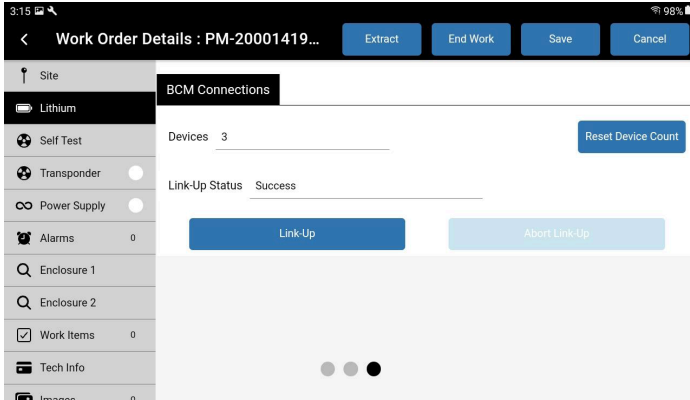
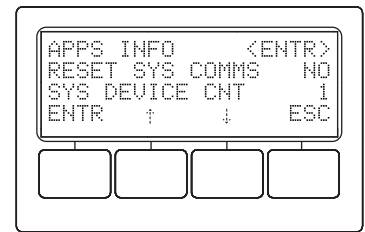

Fig. 5-16, Spotlight360™ App - BCM Connections
Fig. 5-17, Smart Display - System Device Count
3. On the Lithium page in the Spotlight360™ application on the tablet (Fig. 5-16), swipe to the "BCM Connections" display, and check whether the displayed "Devices" count matches the number of BCMs. If not, check the communications cables, then use the "Device Count" button to update the count. Alternatively, on the XM3.1-HP™ power supply Smart Display (Fig. 5-17), in the **BATT** menu, confirm that the **SYS DEVICE CNT** matches the number of BCMs. (If not, check the communications cables, then use the **RESET SYS COMMS** function to update the count.)